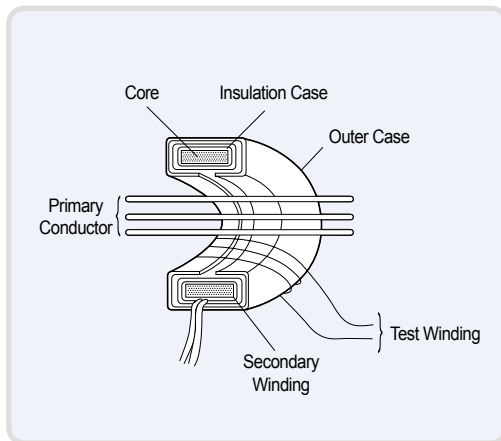

Fig. B-8. Structure of ZCT
The ZCT needs to be considered separately from the regular current transformer(CT) because it has to detect extremely small current leakage. A highly permeable magnetic material like the permalloy core is commonly used. As in Fig. B-8, the permalloy core, the primary conductor through which the main circuit current flows and secondary winding which is coiled around the core are fundamental in its composition. The principal of detecting works by the core's vector synthesis with magnetic flux which is from the primary conductor phase current and by the magnetic flux within the flux difference of each phase, electromotive force occurs at secondary winding. At this time, if each phase current's vector sum is zero regardless of primary current size, the magnetic flux will be offset in the core and electromotive force will not occur at secondary winding. But if there is leakage or a grounding fault current, the current balance of each phase breaks down and by the magnetic flux within the size of leakage and grounding current, the core will be excited and electromotive force will occur at the secondary winding.